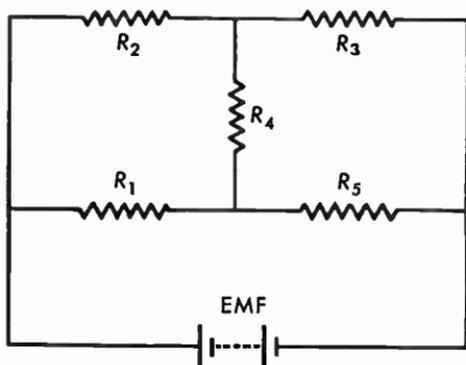

Fig. 2.22a Unbalanced bridge.
2.22 In the unbalanced-bridge circuit of Figure 2.22a, $R_1 = 1$ ohm, $R_2 = 2$ ohms, $R_3 = 3$ ohms, $R_4 = 4$ ohms, $R_5 = 5$ ohms. Assuming